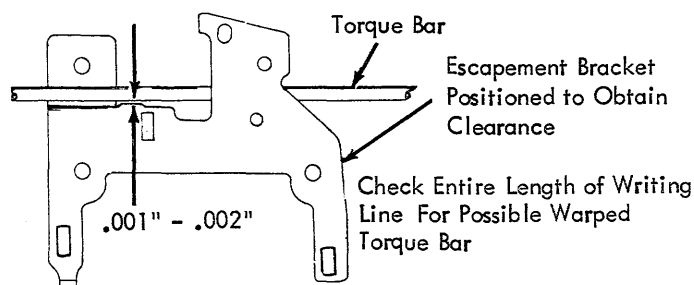

FIGURE 98. Escapement Bracket
- a. With the carrier to the left, adjust the escapement bracket front to rear so that .001" to .002" exists between the raised area of the escapement bracket and the tab torque bar. The rear surface of the escapement bracket should be kept parallel with the tab torque bar (Fig. 98).